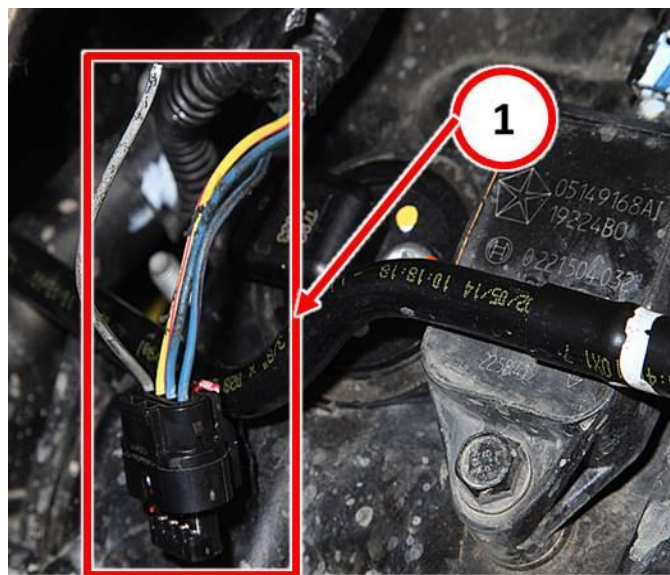

Fig. 3 CMP Sensor Connector
4. Repair any damaged wiring to the CMP harness near the connector. See (Fig. 3). Refer to detailed repair instructions in DealerConnect/TechConnect Service Information Section 29 - Non-DTC Diagnostics> Circuit Testing Procedures> Standard Procedure> WIRE SPLICING.